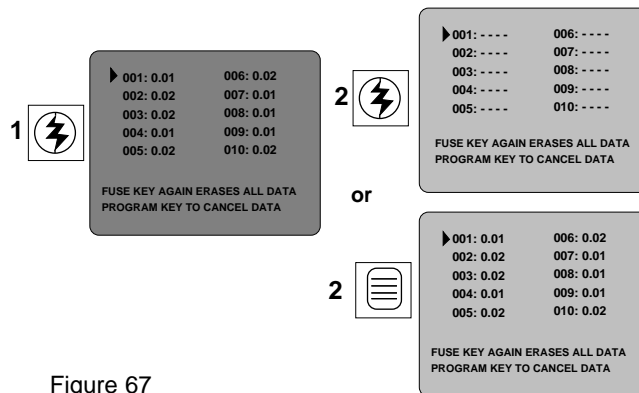

Figure 67
- b) The prompts now ask you to either press the Fuse key again as a confirmation to erase the stored values, or press the program key to cancel the erase command (Figure 67).